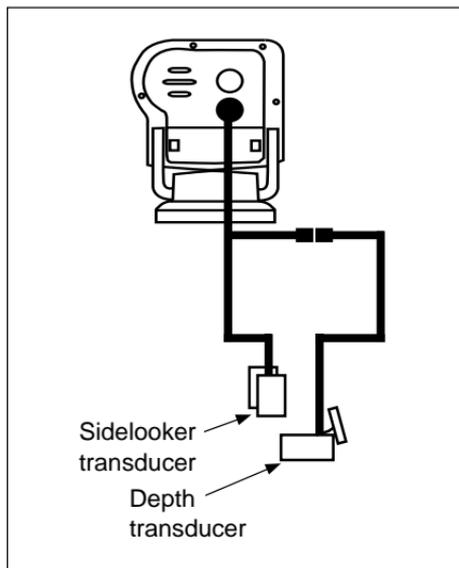

Fig. 2-13
1. If the installation includes the optional Sidelooker transducer, there will be two transducer cables. See Fig. 2-13. The cable from the Sidelooker includes a “Y” connector.